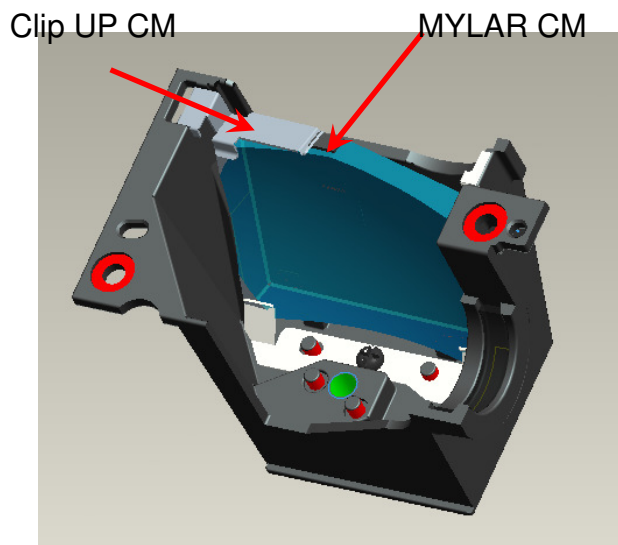

Fig. 3-4
- IV. Assemble “MYLAR CM ” to the CMD firstly, “CLIP TOP CM”(with forceps) to the “HSG ILL” (Fig. 3-4,).